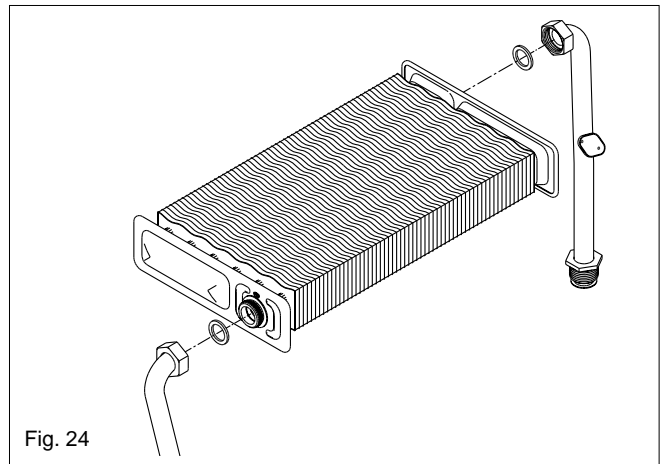

Fig. 24
6.17 HEAT EXCHANGER (see fig. 24)